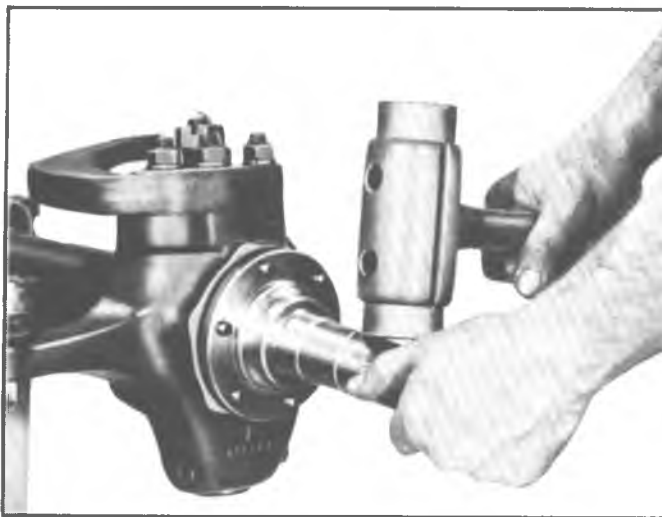

Fig. 59—Removing Spindle and Thrust Washer
7. Remove the spindle and bronze thrust washer by tapping the end of the spindle lightly with a soft hammer to break it loose from the knuckle as shown in Figure 59. Discard the thrust washer if any wear has occurred.
9. Remove axle slingers by placing into a vise and tapping off as shown in Figure 59 or using a press.